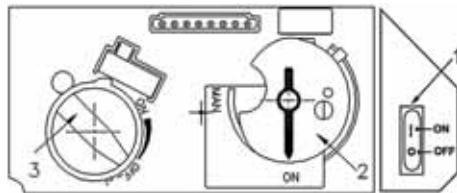
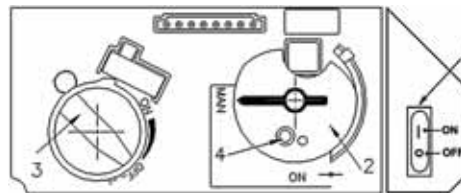
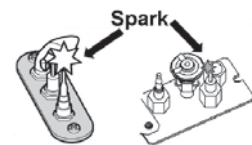

Fig 1
Fig 2
Fig 3
2. SET ON/OFF SWITCH (1) TO "OFF" POSITION.
- Wait five (5) minutes to clear out any gas, then smell for gas, including near the floor. If you smell gas, STOP! Follow "B" in the safety information above on this label. If you don't smell gas, go to the next step.
3. AUTOMATIC IGNITION (fig. 1): Locate the pilot (fig. 3.) inside of firebox at Left Hand side.
- ON/OFF switch (1) in ON position, MAN-knob (2) in ON position; set Flame Adjustment knob (3) to lowest setting (⊖);
- When the pilot is lit, the Flame Adjustment knob (3) will automatically rotate to the highest setting.
4. MANUAL IGNITION (fig. 2): With the window off, locate the pilot (fig. 3) inside of firebox at Left Hand side;
- ON/OFF switch (1) in ON position, MAN-knob (2) in MAN position;
- Set Flame Adjustment knob (3) to the lowest setting (⊖);
- Push down the metallic core (4) with a pen or similar instrument; this will establish the pilot gas flow; Light gas at the pilot (5) with a match;
- Continue holding down metal core (4) for about 10 seconds; after release, pilot should remain lit;
- If the pilot will not stay lit after several tries, turn the gas control knob (3) to "OFF" (⊖) and call your local service technician or gas supplier.